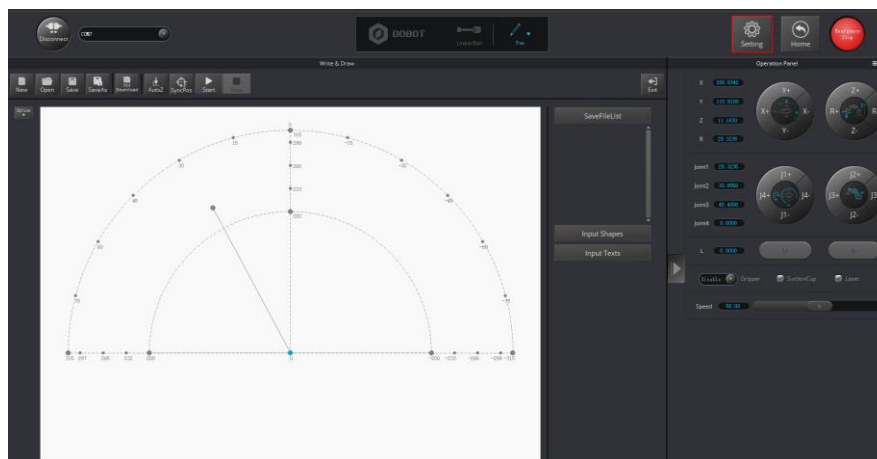

Figure 5.76 Click Setting
1. Click **Setting** on the **Write & Draw** page, as shown in Figure 5.76.